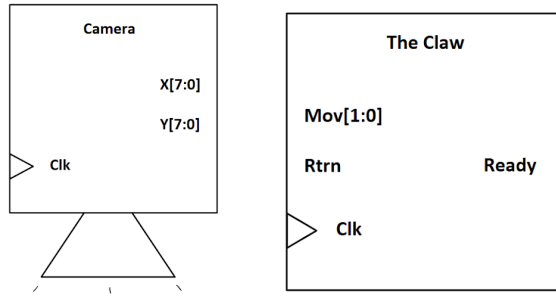

Figure 7: Camera and claw diagrams.
**Camera:** The camera shown in Figure 7 outputs two 8 bit values (X[7:0] and Y[7:0]) that represent the location of Buzz in the square tank. (0,0) represents the bottom left corner and (255,255) represents the top right corner of the tank. The X and Y values update with a slight delay for each rising edge of the Clk input.
**Claw:** Figure 7 illustrates the claw. Inputs
Use Figure 11 to design an APB-compliant hardware module by connecting the peripherals in Figure 7 with wires and standard logic gates, such that the module will give an up to date location of Buzz Lightyear from the camera and be able to maneuver the claw.